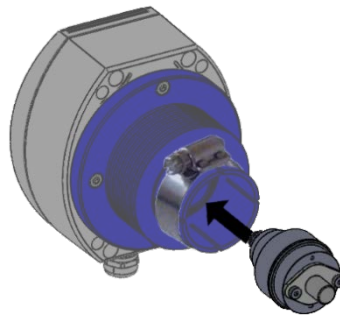

Figure 5-8 - Insert Sensing Module
- c. Fit sensing module to the head housing and gently push to secure the module in place; refer to Figure 5-8.